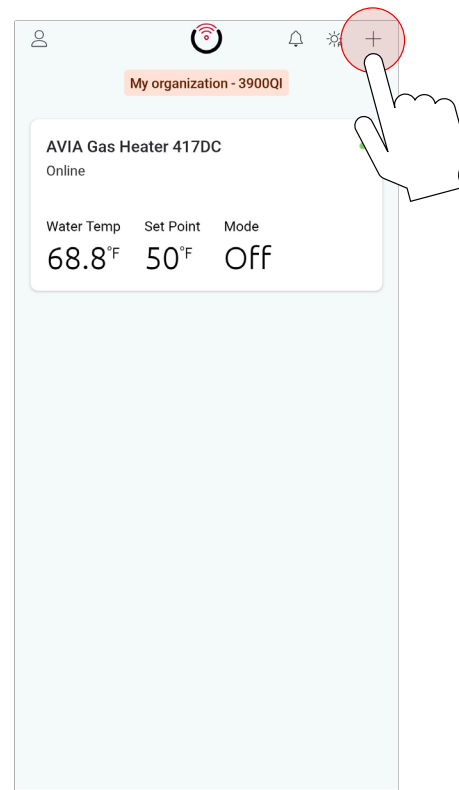

Figure 82. Add New Device
1. In the Raymote app, press the menu button ≡ located at the top left corner of the screen, then press "+ Add new device". See **Figure 82**.